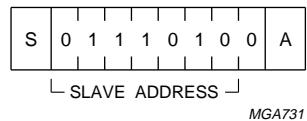
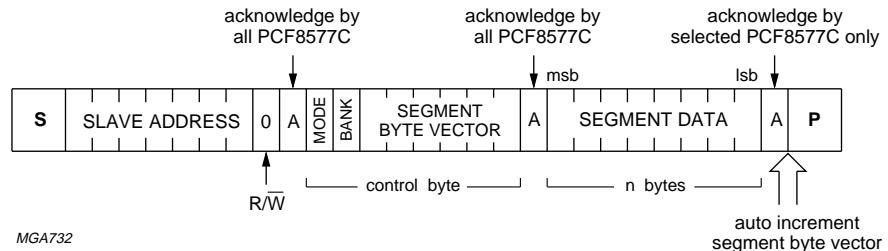

Fig.6 PCF8577C slave address.
Fig.7 I²C-bus protocol.
There is one slave address for the PCF8577C (see Fig.6). All addressed devices load the second byte into the control register and each device maintains an identical copy of the control byte in the control register at all times (see I²C-bus protocol Fig.7), i.e. all addressed devices respond to control commands sent on the I²C-bus.
The PCF8577C slave address is shown in Fig.6.
The PCF8577C I²C-bus protocol is shown in Fig.7.
The PCF8577C is a slave receiver and has a fixed slave address (see Fig.6). All PCF8577Cs with the same slave address acknowledge the slave address in parallel. The second byte is always the control byte and is loaded into the control register of each PCF8577C connected to the I²C-bus. All addressed devices acknowledge the control byte. Subsequent data bytes are loaded into the segment registers of the selected device. Any number of data bytes may be loaded in one transfer and in an expanded system rollover of the SBV from 111 111 to 000 000 is allowed. If a stop (P) condition is given after the control byte acknowledge the segment data will remain unchanged. This allows the BANK bit to be toggled without changing the segment register contents. During loading of segment data only the selected PCF8577C gives an acknowledge. Loading is terminated by generating a stop (P) condition.